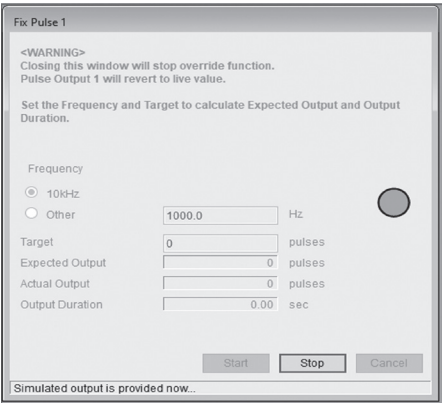

Fig.129
- ⑤ Click the "OK" button to cause the simulated output value to be outputted. While the simulated output value is being outputted, a message at the bottom of the window will indicate that the system is "creating simulated output", as shown in Fig. 129. Click the "Stop" button to halt the simulated output.